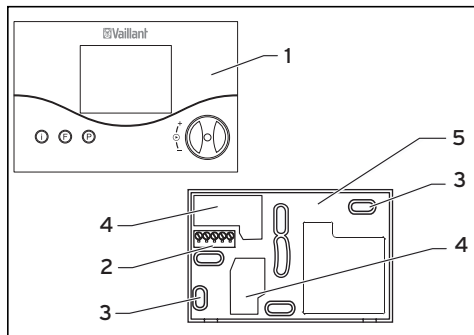

Fig. 9.1 Mounting the room thermostat
- Pull the room thermostat (1) out of the mounting box (5).
- Drill two holes (3) of 6 mm diameter (as shown in fig. 9.1) and put in the supplied wall plugs.
- Guide the connection cable through the duct (4).
- Place the room thermostat (1) on the mounting box (5) so that the pins on the back of the upper section fit into the recesses (2).